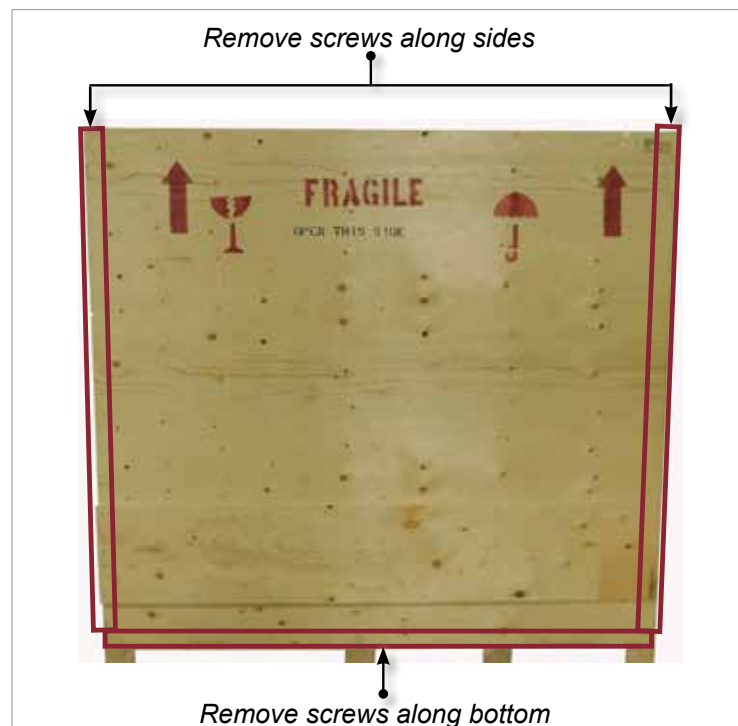

Figure 3-8 Remove screws from side and bottom
5. From the side of the crate marked with “FRAGILE OPEN THIS SIDE”, remove the screws down the sides and at the bottom of the crate. See Figure 3-8.